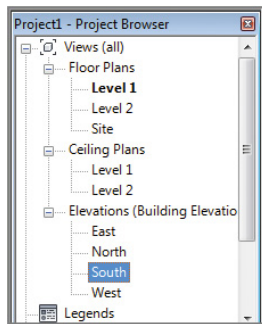

FIGURE 7.2 Open the South elevation
1. On the home screen, select Architecture Template to open one of the default Revit Architecture templates. Open the South elevation by double-clicking South in the Project Browser (see Figure 7.2).